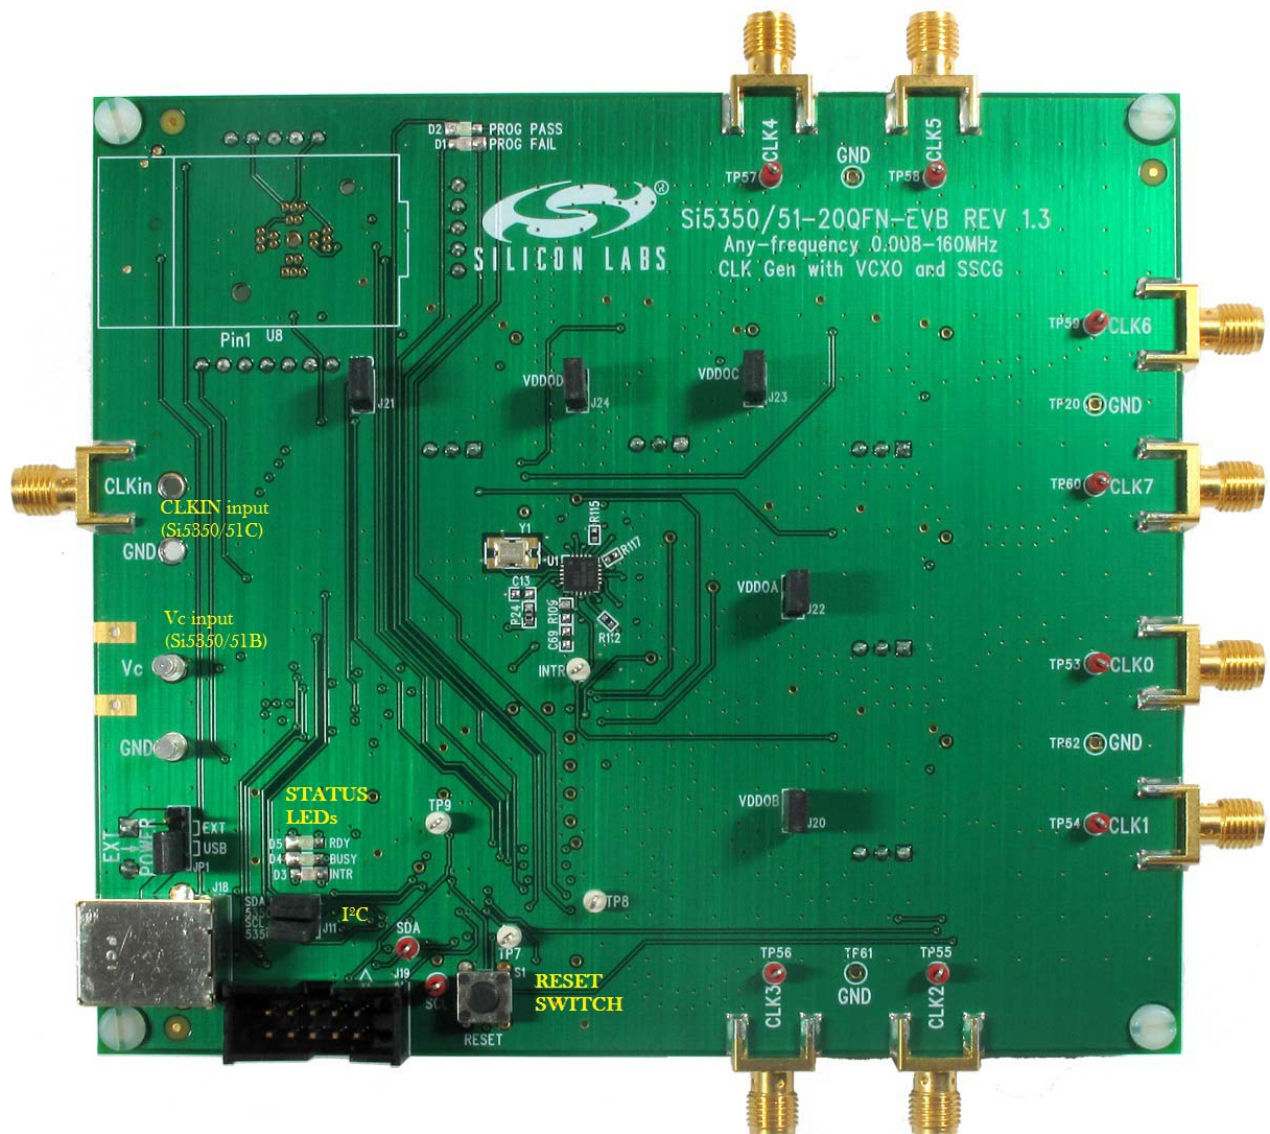

Figure 1. EVB Features (Front)
Figures 1 and 2 highlight the main features of the EVB. The onboard MCU is responsible for programming the Si535x timing IC, measuring the device's current consumption reported in the ClockBuilder™ Desktop, managing power, and controlling status LEDs. VDD and VDDO jumpers allow the option of choosing between 1.8 (VDDO only), 2.5, and 3.3 V or powering the device with external supplies (see "2. Jumpers" for details). I2C jumpers allow the Si535x to be disconnected from the I2C bus, allowing external control from another I2C master.
- **EXT POWER**—Allows user to select between 5 V USB supply and 5 V external supply on J17. See Figure 1 for jumper locations.